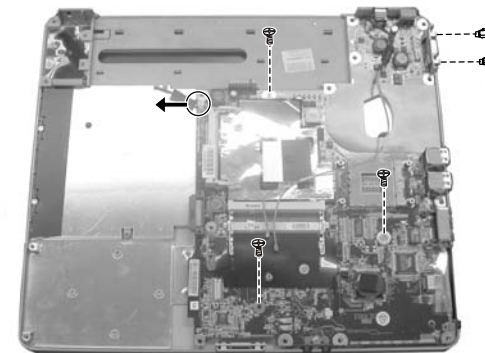

Figure 2-34 Remove the system board
10. Remove the three screws and two hex nuts that secure the system board. And disconnect one cord. Now you can lift up the system board. (Figure 2-34)